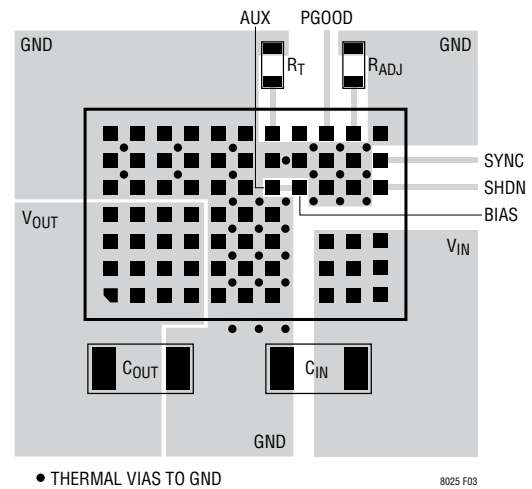

Figure 3. Layout Showing Suggested External Components, GND Plane and Thermal ViAs.
Most of the headaches associated with PCB layout have been alleviated or even eliminated by the high level of integration of the LTM8025. The LTM8025 is nevertheless a switching power supply, and care must be taken to minimize EMI and ensure proper operation. Even with the high level of integration, you may fail to achieve specified operation with a haphazard or poor layout. See Figure 3 for a suggested layout. Ensure that the grounding and heatsinking are acceptable.
6. For good heatsinking, use vias to connect the GND copper area to the board's internal ground planes. Liberally distribute these GND vias to provide both a good ground connection and thermal path to the internal planes of the printed circuit board. Pay attention to the location and density of the thermal vias in Figure 3. The LTM8025 can benefit from the heat-sinking afforded by vias that connect to internal GND planes at these locations, due to their proximity to internal power handling components. The optimum number of thermal vias depends upon the printed circuit board design. For example, a board might use very small via holes. It should employ more thermal vias than a board that uses larger holes.